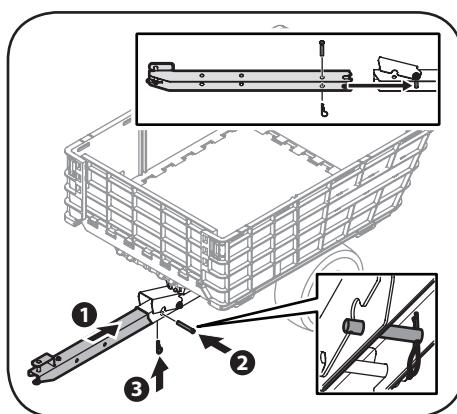

Figure 3-9
13. Slide the tongue assembly into the tongue bracket as shown in Figure 3-9. Line up the rear-most hole with the hole in the tongue bracket and insert the clevis pin through the tongue assembly and the tongue bracket. Secure the clevis pin with the cotter pin as shown in Figure 3-9.
14. Be sure that the clevis pin is installed on the interior of the tongue assembly and the tongue bracket as shown in the inset in Figure 3-9.